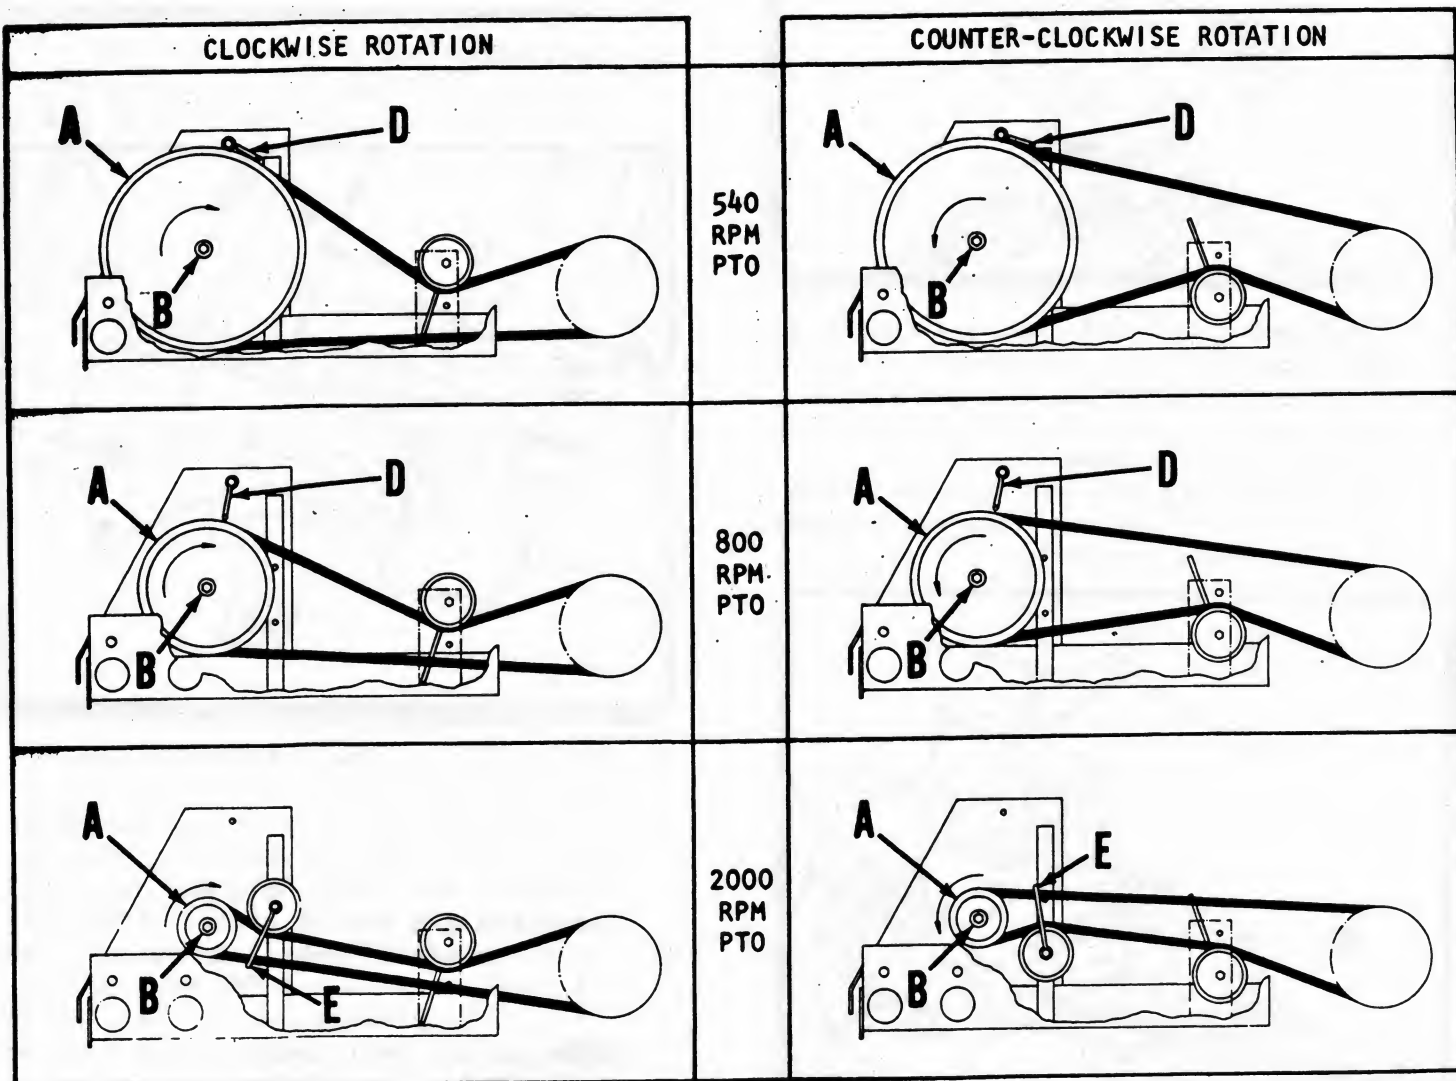

FIG. 5
INSTALLATION OF DRIVE PULLEY (FIG. 5)
1. Install idler pulley(s) in position as shown in Figure 5 according to rotation and drive speed of your tractor PTO.
2. Place v-belt around drive pulley (A) and around idler pulley(s) and allow v-belt to lay in approximate position shown in Figure 5 for your drive.
9. If required for your drive, assemble belt keeper (D) to jackshaft housing assembly with 3/8" bolt and nut found in Drive Kit bag of parts. (Fig. 5)
10. Check to see if v-belt conforms to what is shown in Figure 5 for your drive. If v-belt conforms to what is pictured then adjust belt keeper (D or E as required) 1/8" to 1/4" from v-belt and tighten.